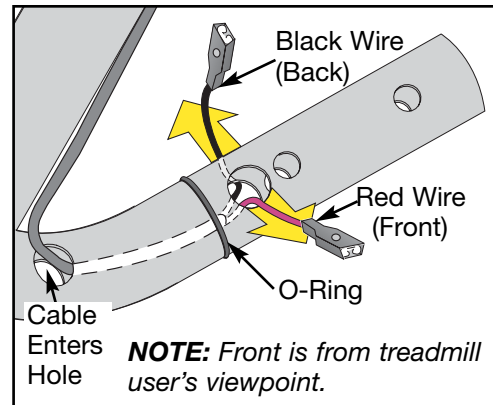

Figure 27
- E. Fold the each cable and place it into the hole that leads to the grip. See Figure 27.
- F. Push each wire out a hole (red out the front hole and black out the back hole). See Figure 27.
- A. Slide an o-ring on each handrail and roll it over the wires so that it is positioned just after the hole where the wires emerge. See Figure 27.